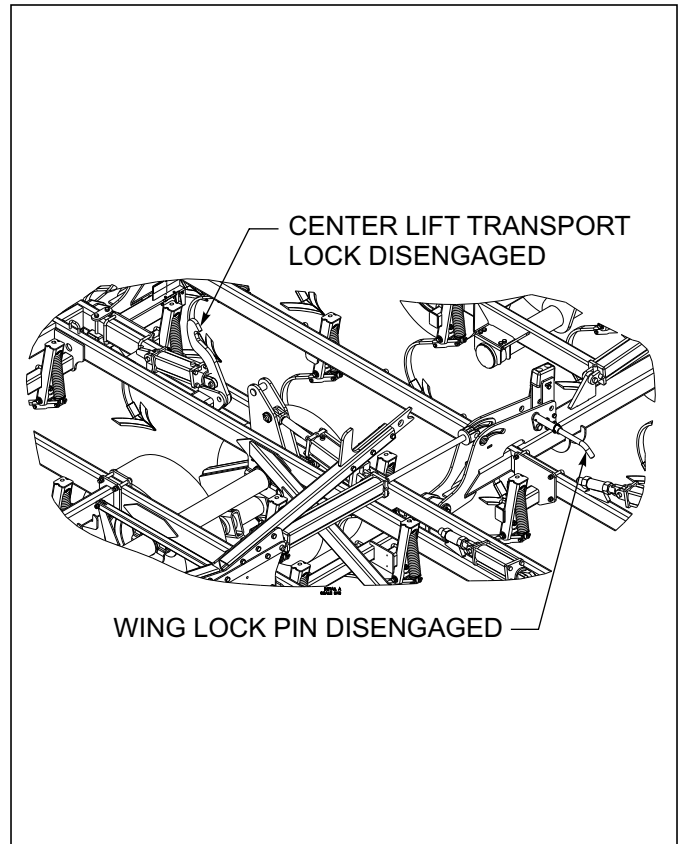

Figure 4-9: Stored Transport Locks
14. Install transport locks and pins on both lift and fold systems. Do not depend solely on implement hydraulics for transport **(See Figures 4-9 and 4-10.)**